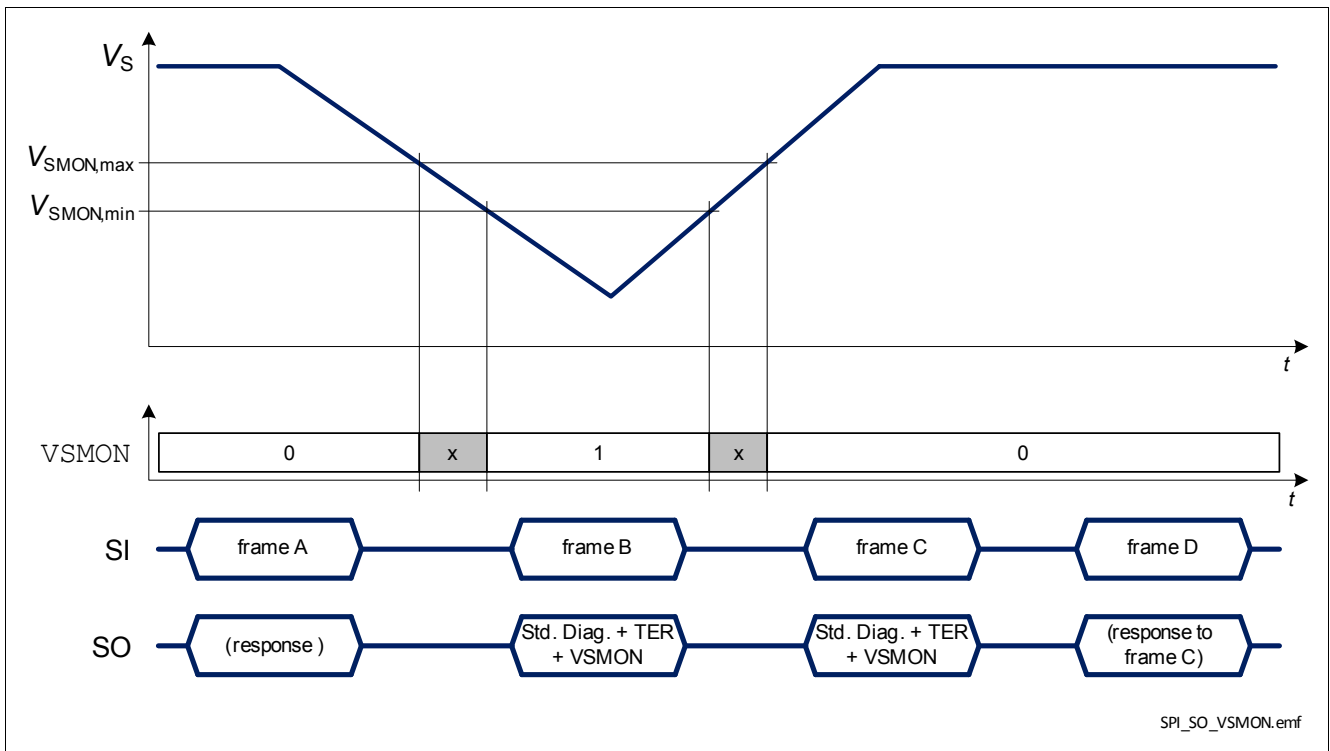

Figure 35 BTS56033-LBB response in case of a negative battery voltage transient
- when  $V_S < V_{SMON}$  and  $\text{DCR.MUX} \neq 111_B$ , as shown in Figure 35